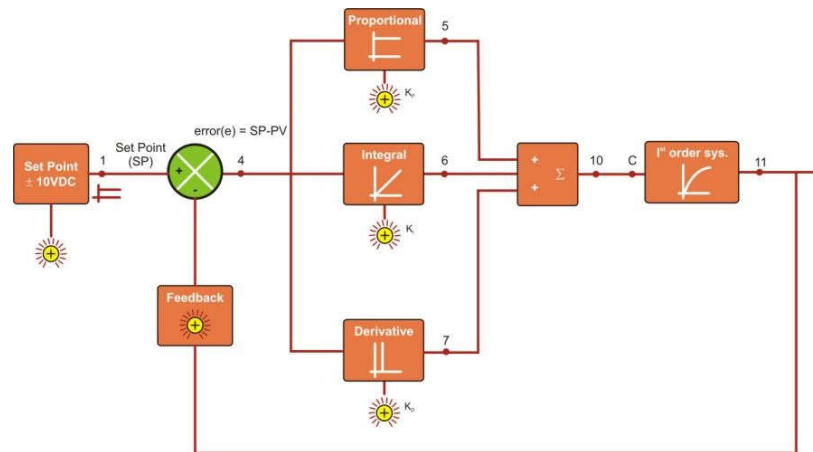

Figure 19
1. Then do the Connections for Proportional + Integrator + Derivative (PID) with first order system are as shown in the figure 19.